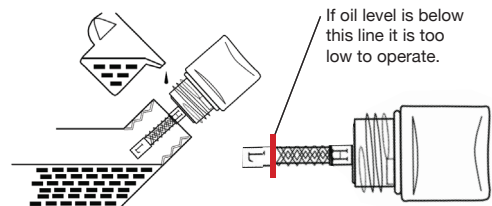

Figure 19 - Checking Oil Level
7. **Acceptable Oil Level** - Oil is visible on the crosshatches between the H and L lines on the oil fill plug/dipstick (see Figure 19).
8. Continue to add oil until the oil is at the correct level. See Figure 19.